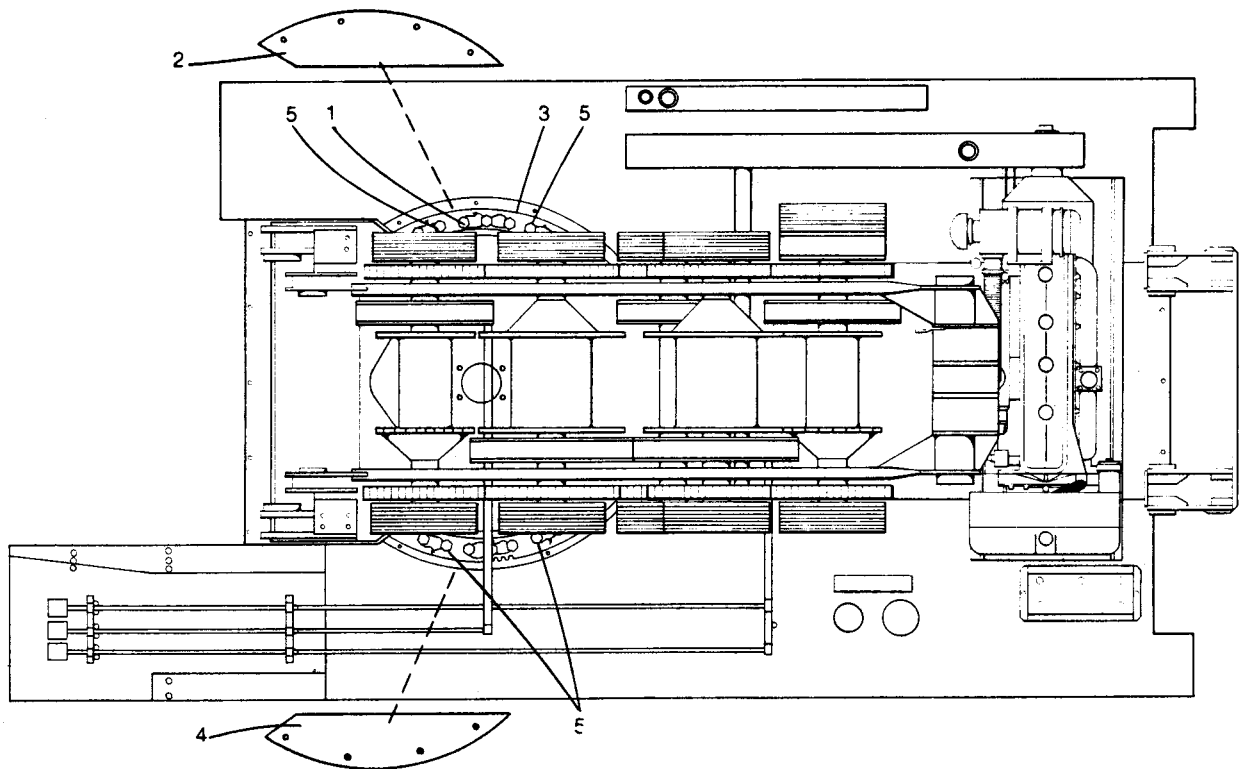

Fig. 2. Upper Frame and Turntable Bearing
- (c) Remove bearing cover plates from both sides of the revolving frame to expose the bearing (item 2 and 4, Fig. 2).
- (d) Install four positioning studs (5 in Fig. 2) in the tapped holes in the carrier